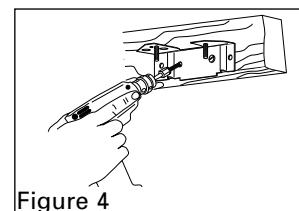

Figure 4
1. Mount bracket to joist using the two wood screws provided (Figure 4).
2. Mount sidemount bracket to joist using the two wood screws provided (Figure 4).